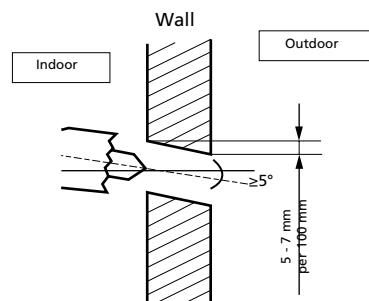

Figure 10
- Determine the positions of the holes according to the diagram detailed in Fig. 9. Drill one (1) hole slanting slightly downwards to outdoor side, this will prevent water to come indoors (fig 10).